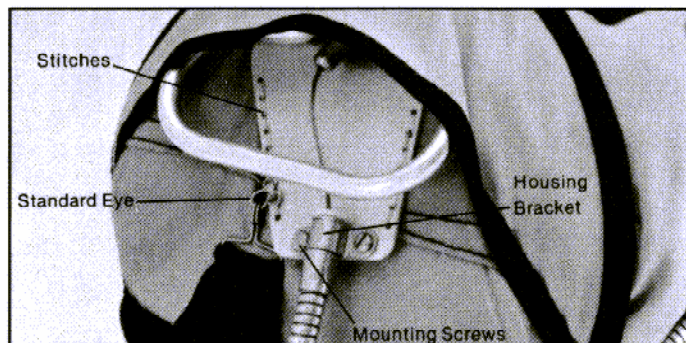

FIGURE 3
A. The FXC Ripcord Housing Mounting Plate (Figure 6A) must be slid into the existing ripcord pocket as deep as possible and secured by stitching the Plate to the pack flap as shown in (Figure 3). Also a standard eye must be sewn to the Plate (Figure 3) in order to hook the side opening band.
C. Secure the Power Cable End Fitting to the Ripcord Housing Mounting Plate with the Ripcord Housing Mounting Bracket (Figure 6C) and two (2) Mounting Screws (Figure 6D). Slide the Ripcord Assembly into the existing Ripcord Pocket as shown in (Figure 3). Then insert manual ripcord pin into terminal eye as shown in (Figure 2) before closing